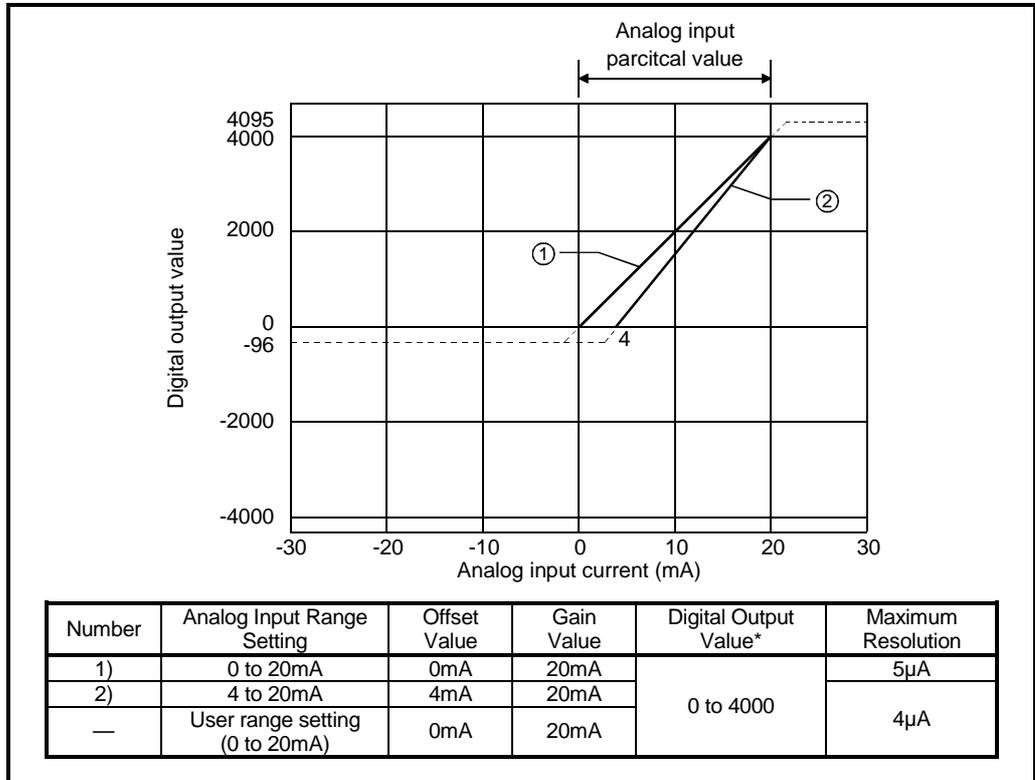

Fig. 3.2 Current Input Characteristic of the AJ65VBTCU-68ADI
| <p>(1) Do not input more than ±30mA. A breakdown may result due to heat increase.</p> <p>(2) If the analog input provided corresponds to the digital output value* beyond its range, the digital output value is fixed to the maximum or minimum.</p> <ul style="list-style-type: none"> • For 0 to 4000, the digital output value is within the range -96 to 4095. <p>(3) Within the analog input and digital output scopes of each input range, the maximum resolution and accuracy are within the performance specification range. Outside those scopes, however, they may not fall within the performance specification range. (Avoid using the dotted line part in Fig. 3.2.)</p> <p>(4) Set the offset and gain values of the user range setting within the range satisfying the following conditions.</p> <p>(a) Setting range when user range setting is selected: 0 to 20mA</p> <p>(b) (Gain value) > (Offset value)</p> <p>If you attempt to make setting outside the setting range of (a), the "RUN" LED flickers at 0.5s intervals. Set the values within the setting range.</p> <p>If you attempt to make setting outside the setting range of (b), the "RUN" LED flickers at 0.5s intervals. Make setting again.</p> |